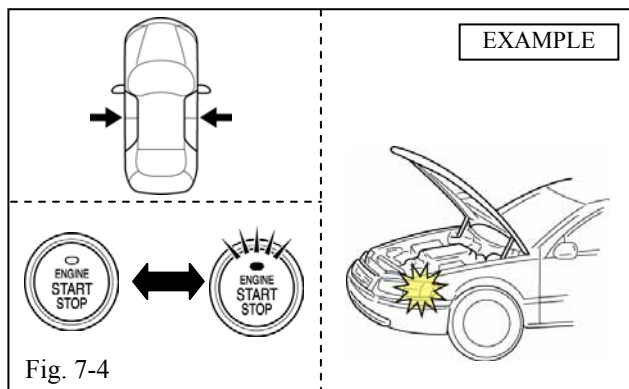

Fig. 7-4
- (e) Ensure all Doors are closed and the Smart Key is in your possession. (Fig. 7-4)
- (f) Cycle the Vehicle's "Engine Start Stop" Button from "OFF" to "ON" 5 times. (Fig. 7-4)
- (1) Place the Shift Lever in the "P" (parking) or "N" (neutral) Position.
- (g) Once the fifth cycle has been completed, the Hazard Lights Flash once. (Fig. 7-4)